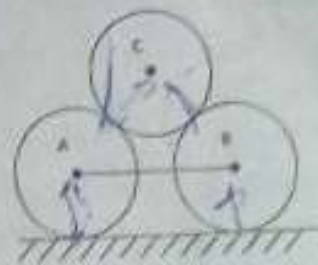

Fig. 2
- (b) Two smooth cylinders 'A' and 'B' each of mass 1000 kg and radius 15 cm connected at their centres by a string AB of length 40 cm and rest upon a horizontal plane as shown in Fig. 2. Above these two cylinders there is a third cylinder 'C' of mass 3000 kg and radius 15 cm. Find the tension in the string AB and reactions at the contact points on the floor.